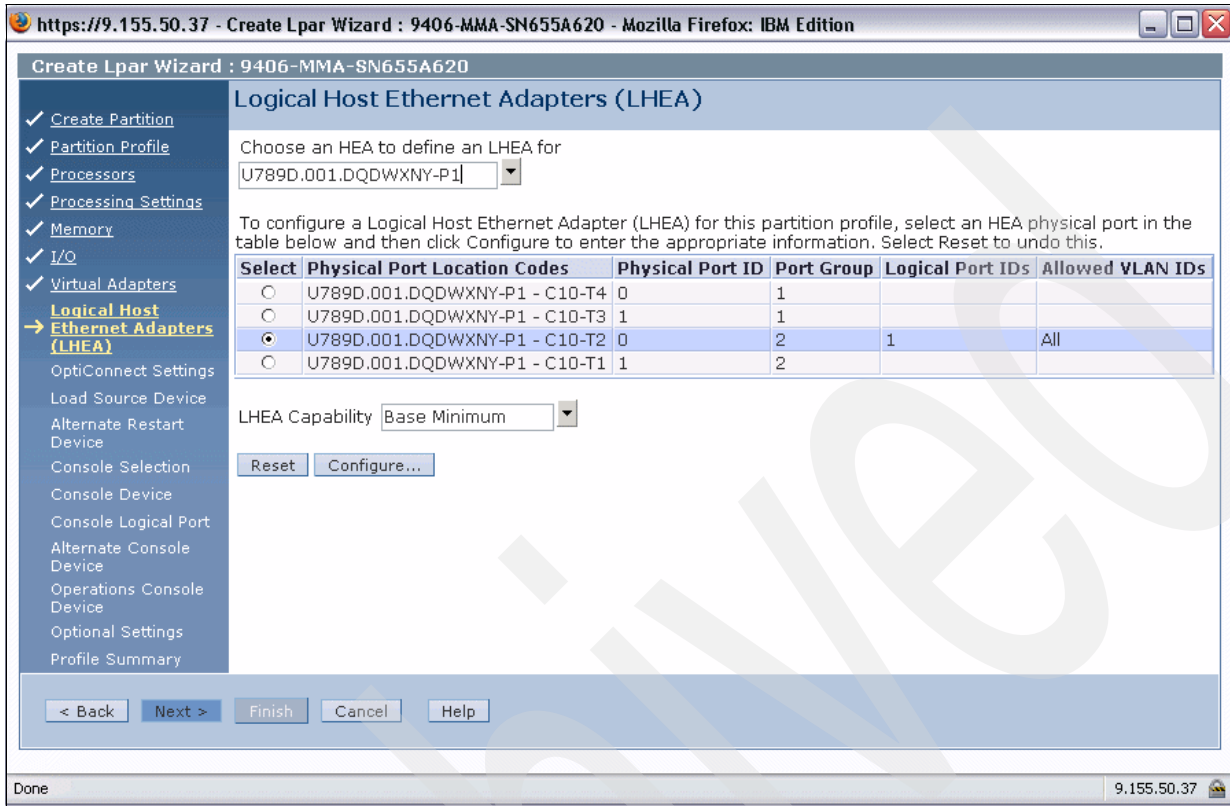

Figure 6-35 Logical Host Ethernet Adapters updated dialog
15. The Logical Host Ethernet Adapters dialog now reflects our HEA port logical configuration, as shown in Figure 6-35, and we select **Next** to proceed.